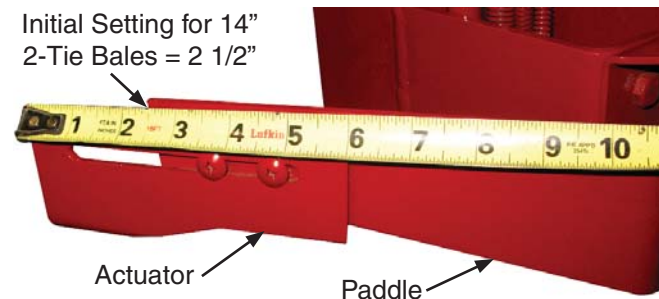

Figure 33 - Limit Switch - 14 Arm Adjustment
2. Use a Phillips head screw driver and wrench to loosen the actuator fasteners (see Figure 33)